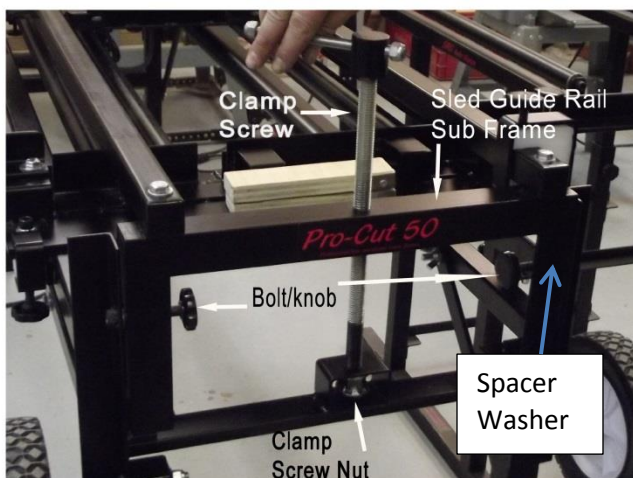
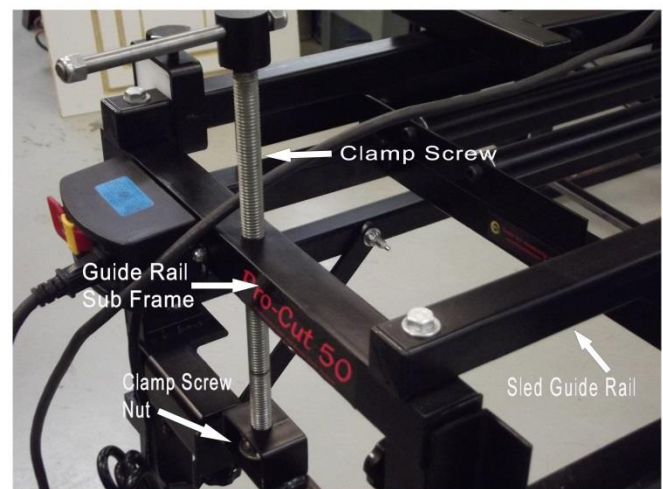

Fig 2
Fig 3
- 2) There are (2) knobs on either side of the Pro-Cut 50 Sub Frame (Fig 2). These are used to lock the Sled Guide Rail Sub Frame in place after adjusting the height of the sled carriage.
- 3) Sled Guide Rail (Fig 3)
- 4) Clamp screw Nut (shown in Fig 2 & Fig 3). If it becomes necessary to tighten the clamp screw nut, use an adjustable wrench and, holding the clamp screw handle, tighten the clamp screw nut onto the